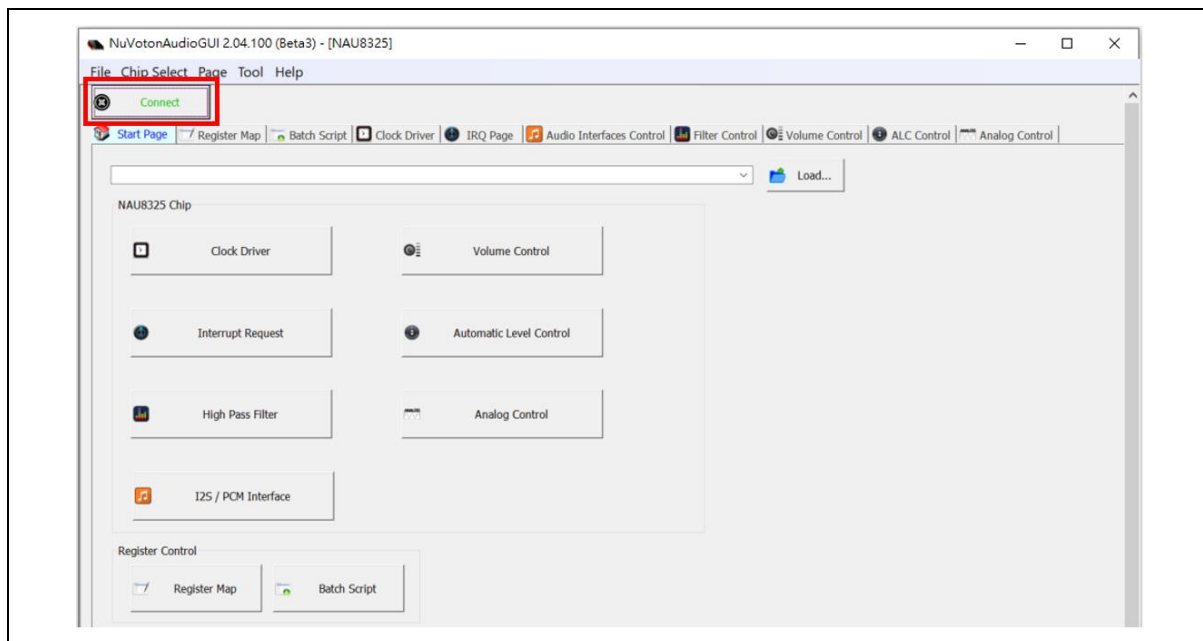

Figure 3-6 NuvotonAudioGUI Operating Step (3)
3. NuvotonAudioGUI will automatically read connection status. If the hardware and software are properly configured, a green [Connect] will appear on the upper left corner of the NuvotonAudioGUI window, as shown in Figure 3-6. Then users can issue I²C commands through NuvotonAudioGUI to control NL-NAU8325.